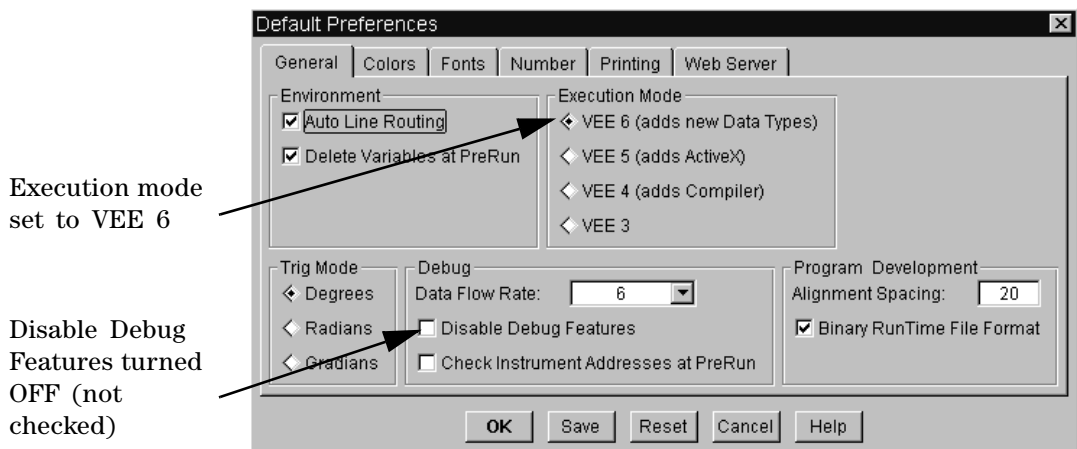

Figure 262 Changing the Execution Mode in Default Preferences
- 2 In the General folder (already displayed, since it is the first folder), under Execution Mode, select VEE 6.0 as shown in Figure 262. In the same folder, make sure that Disable Debug Features is *not* selected. Click **OK**.